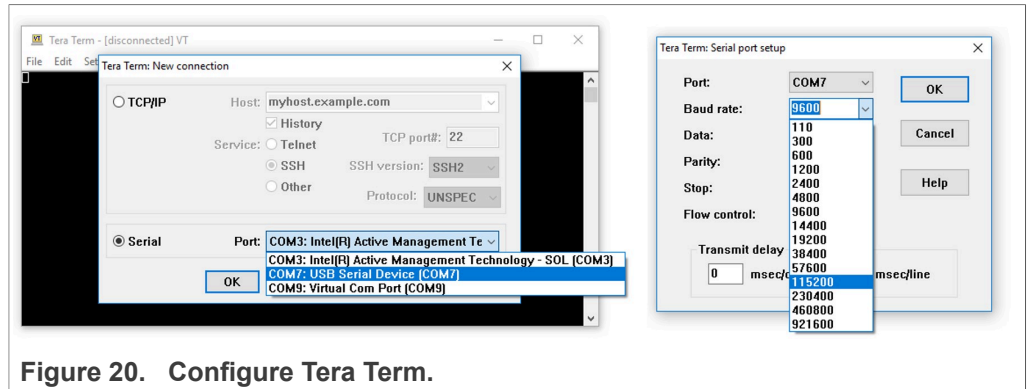

Figure 20. Configure Tera Term.
- 2. Open TeraTerm and establish a serial port connection, as shown in Figure 20. When we execute the project, the data read from the accelerometer will be displayed in this TeraTerm serial port.